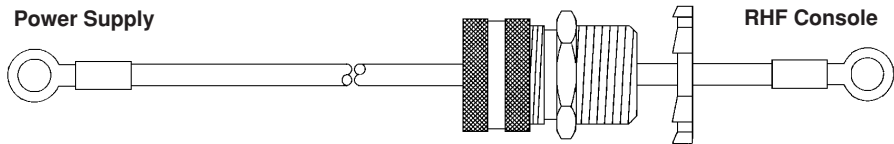

Figure 3-10 Pilot Arc Lead (+)
#### ① Pilot Arc Lead (+) (Figure 3-10)